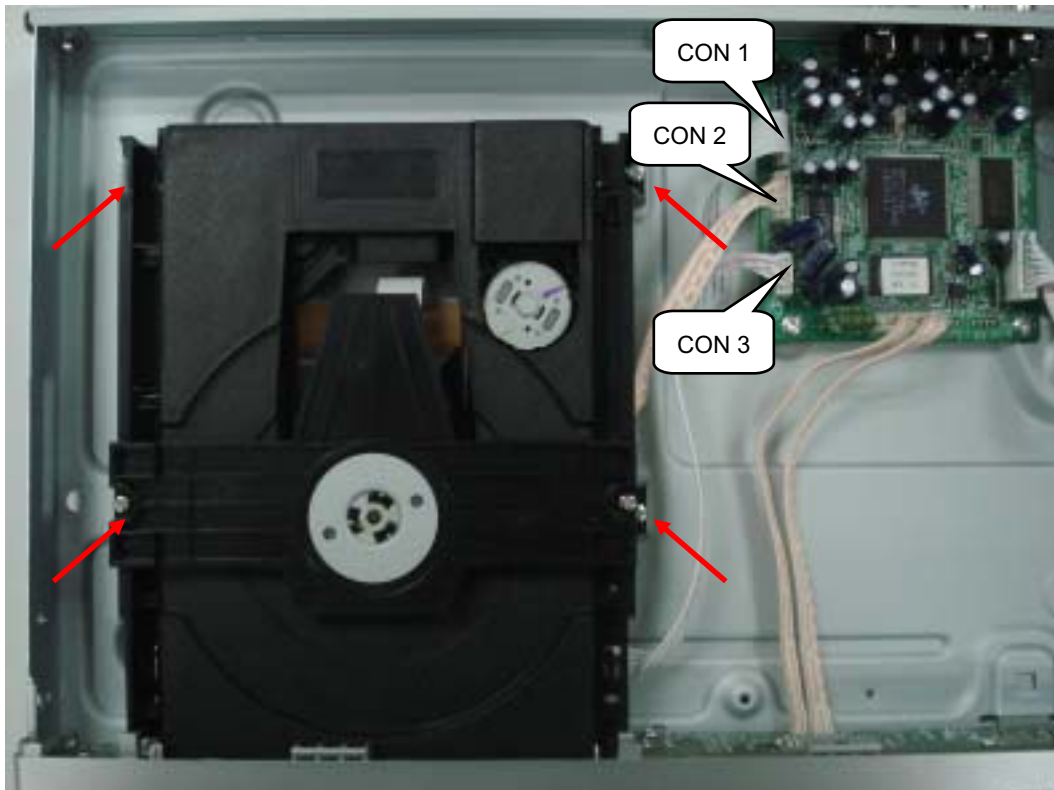

Figure 4
Step4: Dismantling Loader, disconnect the 3 connectors aiming in the below figure, and remove 4 screws around the Loader. (Figure 4)